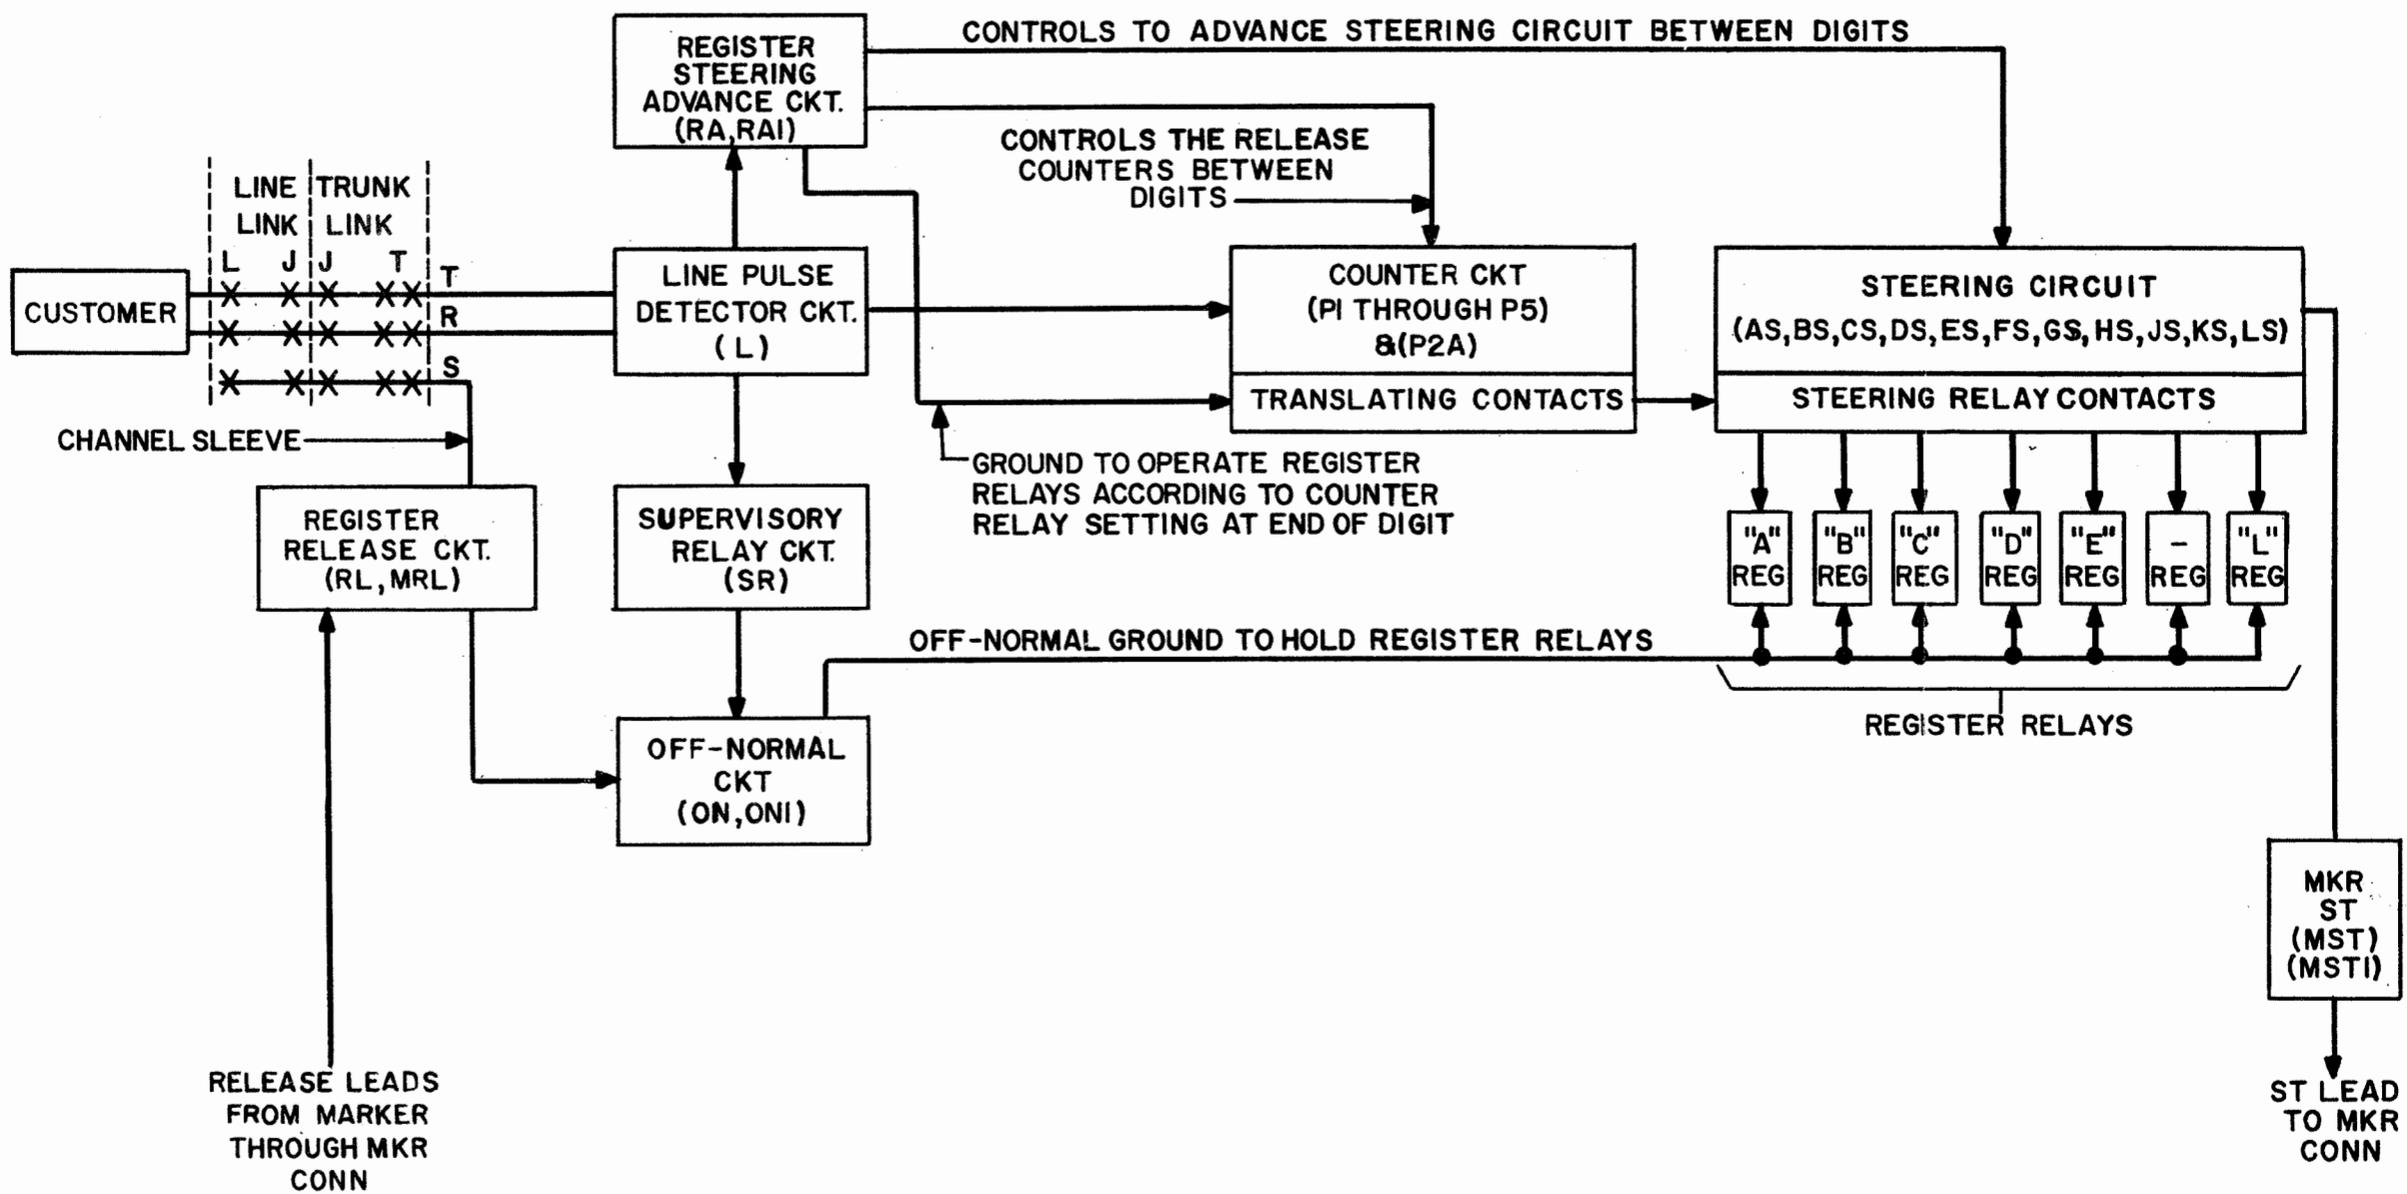

FIG. 1 - DIAL PULSE COUNTING AND REGISTRATION
- 1.03 The originating register counts the dial pulses of each digit and translates the count into a two-out-of-five code. It stores this information until all the digits are dialed, then it calls in a completing marker and gives it the dialed number. Fig. 1 is a block diagram of the various parts of the originating register circuit.